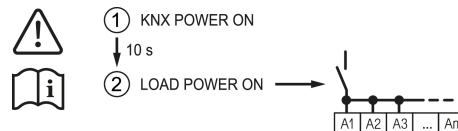

Figure 4: Sequence during commissioning - Device label
- Wait approx. 10 s (see figure 4).